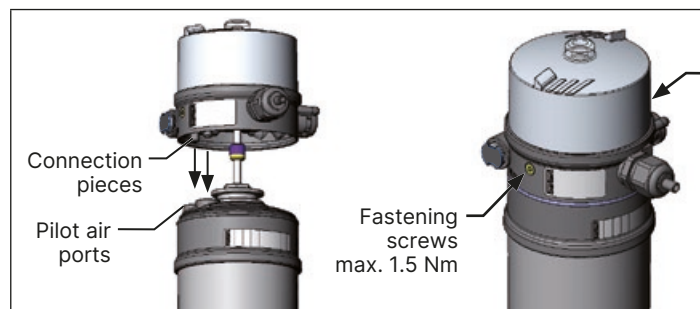

Fig. 4: Installation of the Pneumatic Control Unit, 21xx series
- ▶ Align the Pneumatic Control Unit until the connection pieces of the Pneumatic Control Unit can be inserted into the pilot air ports of the actuator (see also Fig. 4).